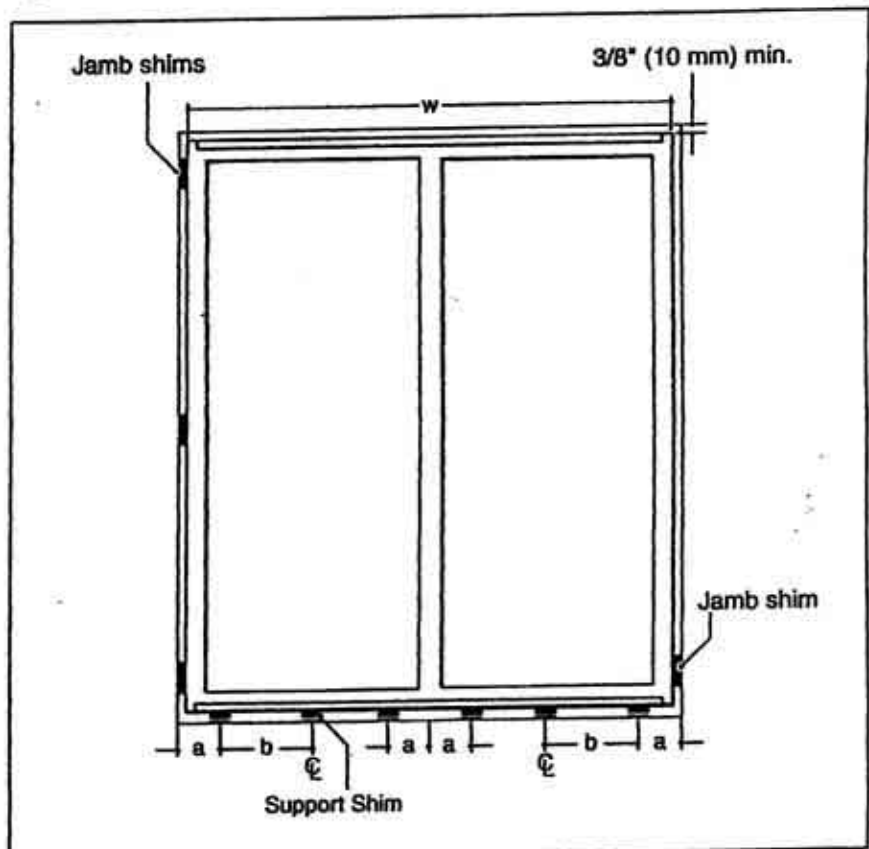

Figure 5-12. Where to put the support shims and the jamb shims
- 4.4 Shim sill with 4" x 1 1/2" shims (See fig. 5-12). **Adjust the height of the shims to obtain a level sill**, ensuring you have a 3/8" gap at the head (inter-storey deflection not to exceed + 3/8").